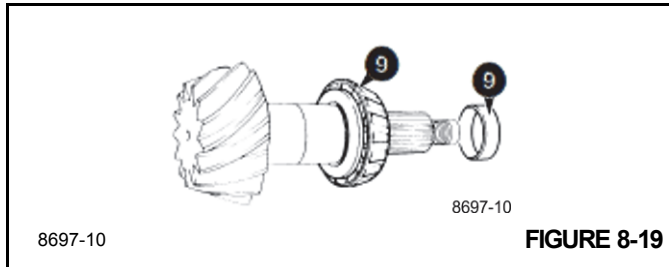

FIGURE 8-19
- Fit the new inner bearing cone on to the pinion and the largest available solid spacer eg (14.20 mm) (Figure 8-19) from the solid spacer setting kit, refer to *Special Tools* on page 8-3.